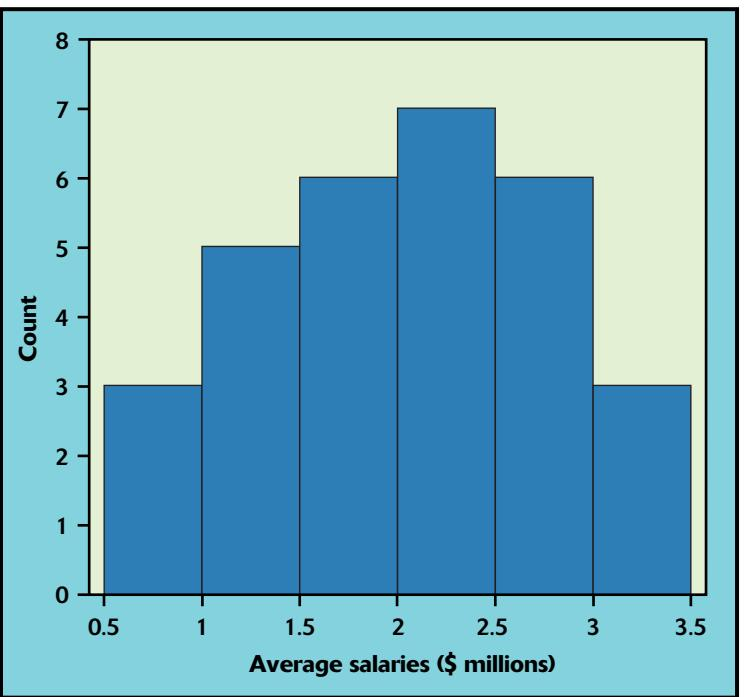
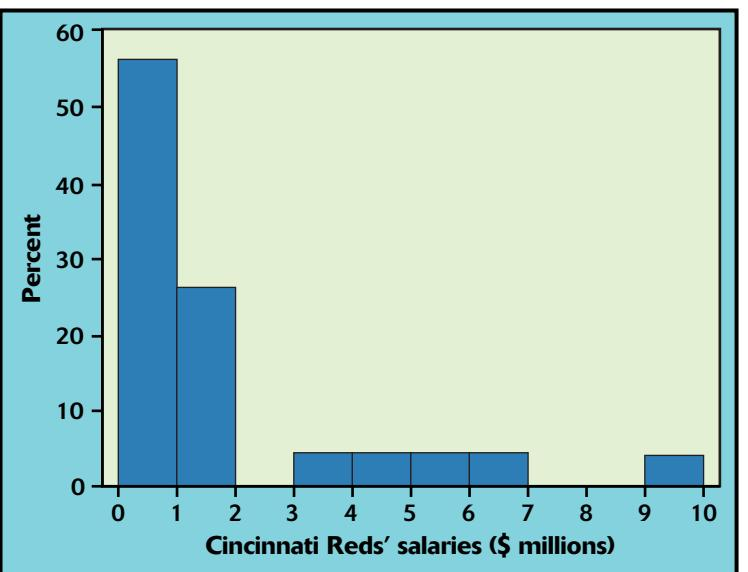

FIGURE 1.3 The distribution of the average salaries for the 30 major league baseball teams on opening day of the 2000 season, for Example 1.5.
FIGURE 1.4 The distribution of the individual salaries of Cincinnati Reds players on opening day of the 2000 season, for Example 1.5.
Figure 1.3 displays a histogram of the average salaries (in millions of dollars) for players on the 30 major league baseball teams as of opening day of the 2000 season. The distribution has a single peak between 2.0 and 2.5 million dollars and falls off on either side of this peak. The two sides of the histogram are roughly the same shape, so we call the distribution *symmetric*.
In mathematics, symmetry means that the two sides of a figure like a histogram are exact mirror images of each other. Data are almost never exactly symmetric, but we are willing to call histograms like that in Figure 1.3 “approximately symmetric” as an overall description.
For comparison, Figure 1.4 shows the distribution of salaries for the players on one team, the Cincinnati Reds. This distribution also has a single peak but is
Notice that the vertical scale in Figure 1.4 is not the *count* of salaries but the *percent* of salaries in each class. A histogram of percents rather than counts is
- 1.8 How would you describe the center and spread of the distribution of average salaries in Figure 1.3? Of the distribution of Cincinnati Reds’ salaries in Figure 1.4?